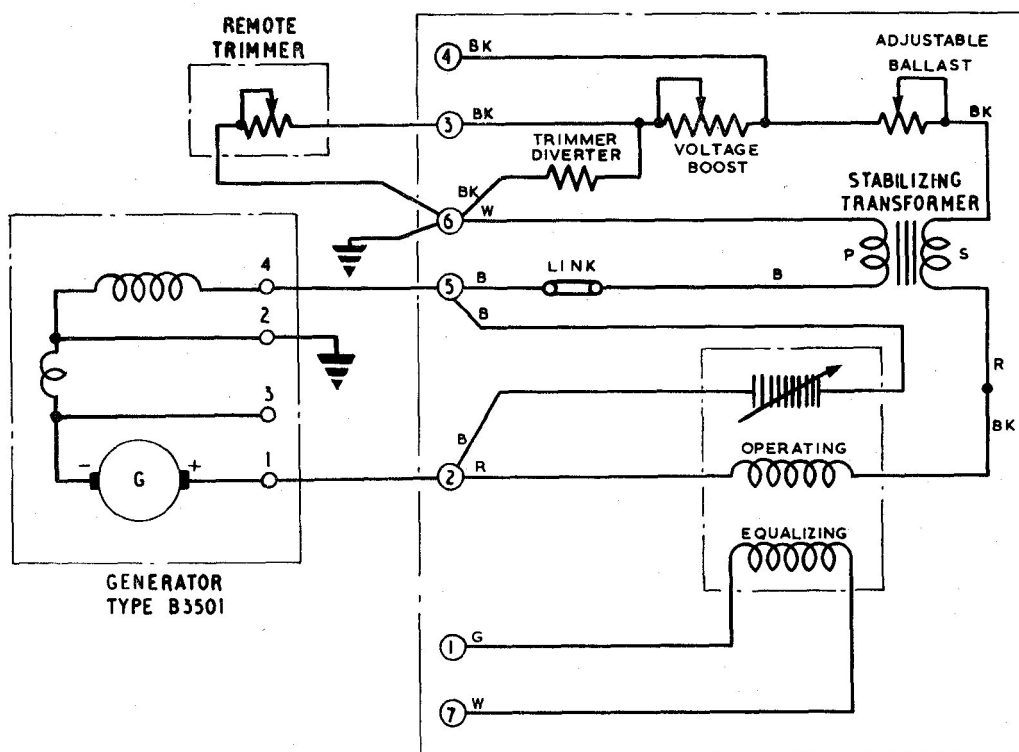

Fig. 3. Circuit diagram
6. A stabilizing transformer is fitted to maintain the stability of the generator during sudden changes of speed or load. It is connected as shown in fig. 3 with the primary winding across the generator shunt field, and the secondary winding in series with the operating coil. Under stable conditions, no voltage is induced in the secondary winding, but when the generator speed increases a voltage will be induced in the secondary winding so as to oppose the compensating effect of the operating coil, and so damp out any tendency towards oscillation.